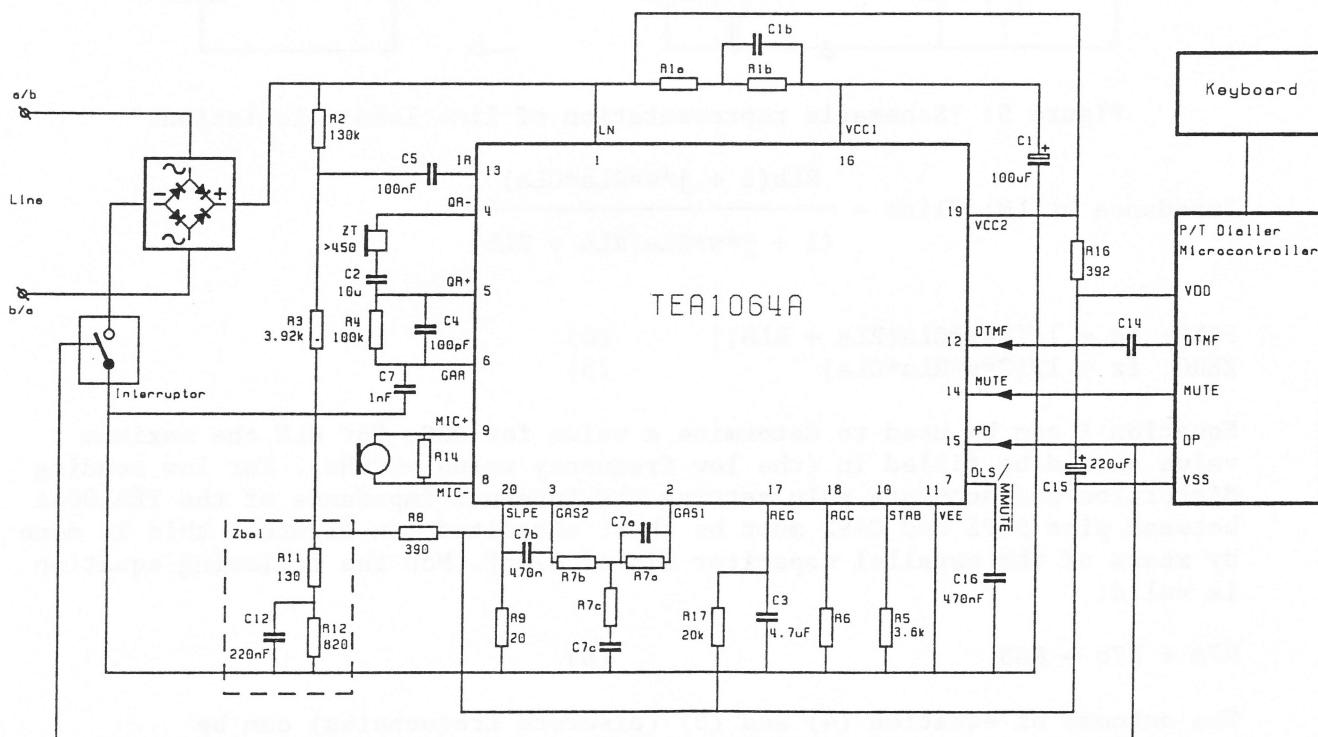

Figure 4 "TEA1064A application with complex set impedance"
In case of a complex set impedance and a complex line termination the load at LN will not be constant with frequency. The absolute impedance decreases above approximately 1500Hz, thus within the speech band (300-3400Hz). For equation (1) this means that the microphone gain will decrease! In order to compensate for this effect the network between GAS1 and GAS2, as shown in figure 4, can be used:
Equation 1 can be used to determine a value for RGS. For RLN the maximum value should be filled in (the low frequency value ≈300Hz). For low sending distortion and accurate gain setting the internal impedance of the TEA1064A between pins SLPE and GAS2 must be short circuited. In figure 4 this is done by means of the parallel capacitor C7b of 470nF. Now the following equation is valid: